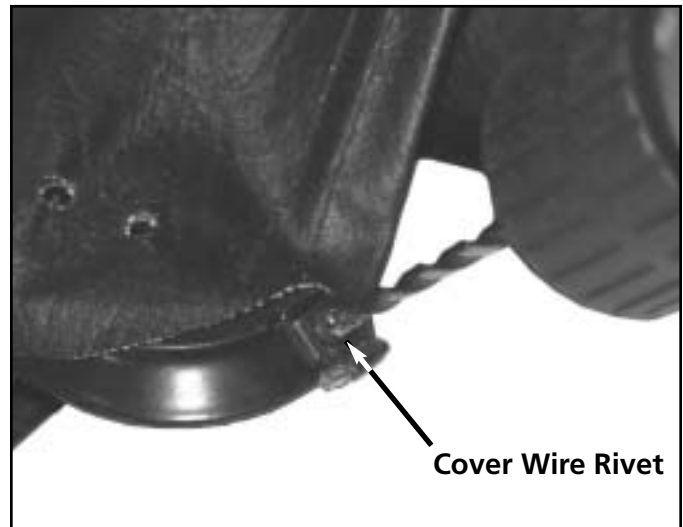

Figure S-61
11. Drill out the cover wire rivet on both sides of the reinforcement. See figure S-61.